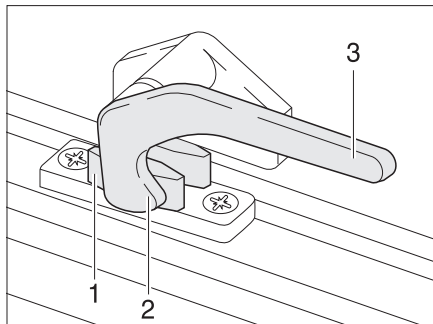

Fig. 10 Catch lever in "closed" position
- Turn the catch lever (Fig. 10,3) a quarter turn towards the centre of the window.
- Turn the catch lever (Fig. 10,3) a quarter turn towards the window frame. The locking catch (Fig. 10,2) is located on the inside of the window catch (Fig. 10,1).